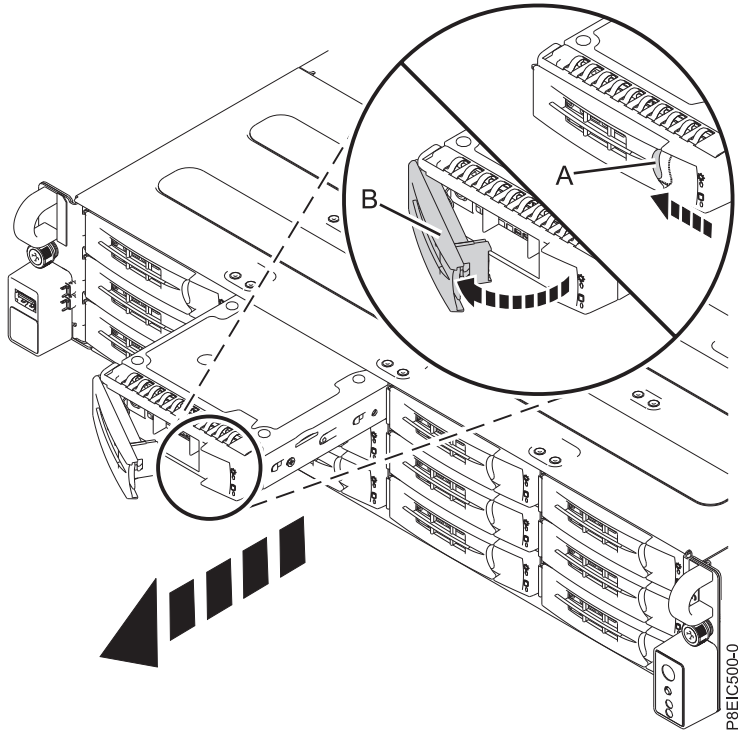

Figure 9. Removing a front drive tray
2. Unlock the drive tray handle by pushing the handle release (**A**) in the direction shown. The handle (**B**) snaps out towards you. If the handle does not snap out all the way, the drive tray does not slide out of the system, as shown in Figure 9 on page 12.